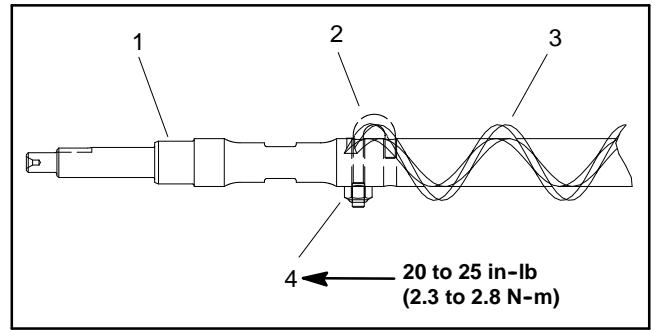

Figure 41
1. If brush was removed from shaft, slide brush onto shaft while rotating brush. Secure brush to shaft with two (2) J-bolts and lock nuts. Make sure that the J-bolts are installed with the threaded portion on the outside of the brush (Fig. 41). Torque lock nuts from **20 to 25 in-lb (2.3 to 2.8 N-m)**.